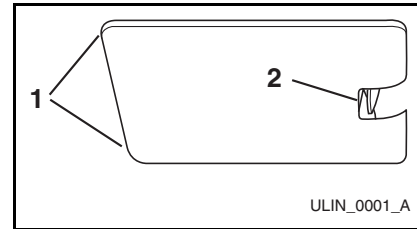

Figure 11
1. Grasp the edges of the light housing lens (**Figure 11, 1**) opposite the exposed tab, and gently push the lens towards the tab (**Figure 11, 2**).
2. Pull the edge of the lens down (**Figure 11, 1**), and swing it out of the light housing.